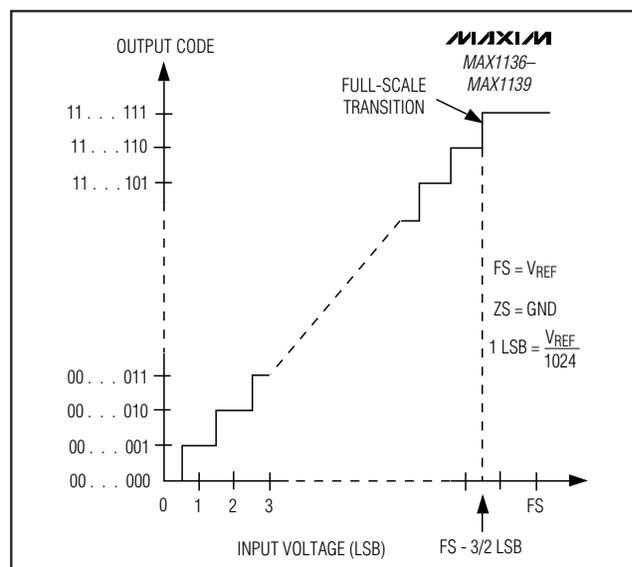
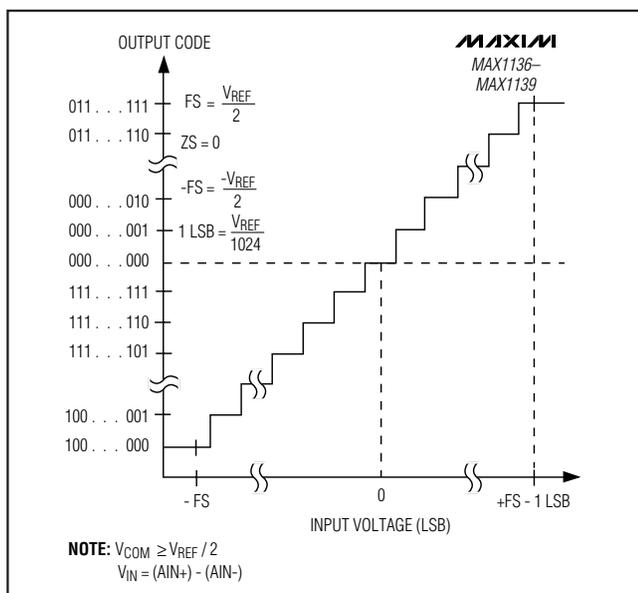

Figure 12. Unipolar Transfer Function
Figure 13. Bipolar Transfer Function
Output data coding for the MAX1136-MAX1139 is binary in unipolar mode and two's complement in bipolar mode with 1 LSB = (VREF/2N) where 'N' is the number of bits (10). Code transitions occur halfway between successive-integer LSB values. Figure 12 and Figure 13 show the input/output (I/O) transfer functions for unipolar and bipolar operations, respectively.